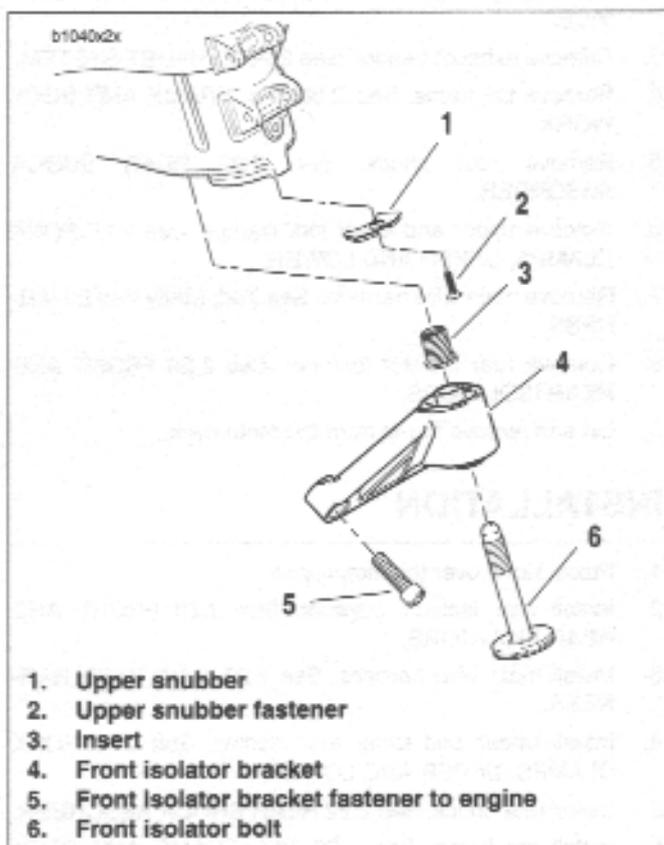

Figure 2-80. Front Isolator
3. See Figure 2-80. Remove front isolator bolt (6).
4. Remove front isolator mount fasteners (5).
5. Remove front isolator bracket (4).
6. Remove upper snubber fastener (2) and remove upper snubber (1).
1. See Figure 2-80. Install upper snubber (1) tightening snubber fastener (2) to 12-36 **in-lbs** (1-4 Nm).
3. See Figure 2-80. Use LOCTITE 272 on front isolator bracket (4) and install. Tightening fastener (5) to 49-51 **ft-lbs** (66-69 Nm).
See Figure 2-80. If the threaded insert (3) is damaged and needs to be replaced, install new insert with LOCTITE 272 and tighten to 49-51 **ft-lbs** (66.4-69.1 Nm).